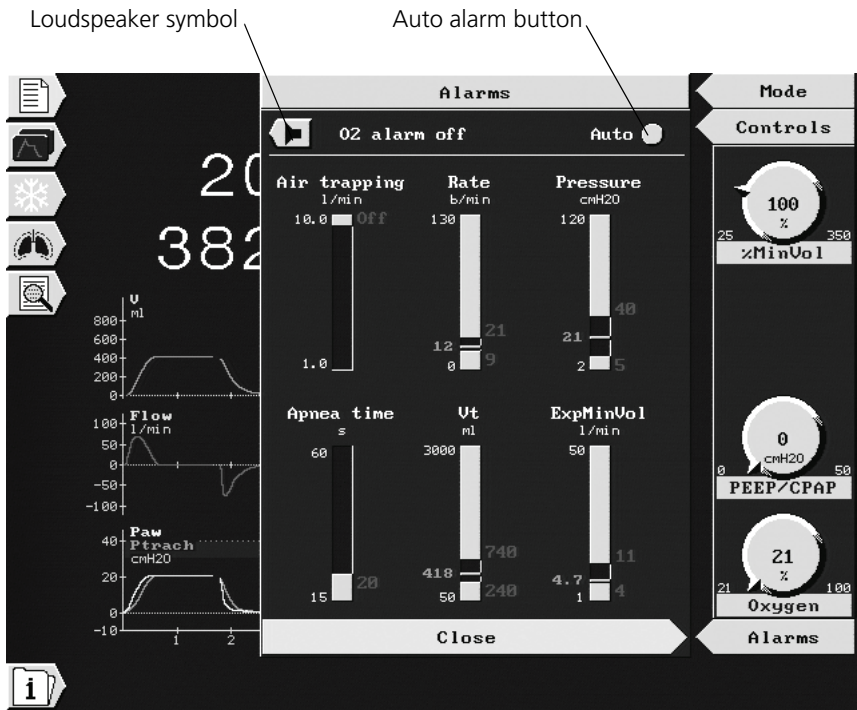

Figure 4-7. Alarms window
1. Open the **Alarms** window (Figure 4-7).